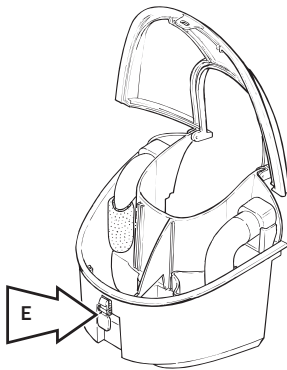

fig. 14
- Pull out hook E (fig. 14) and raise the tank cover.